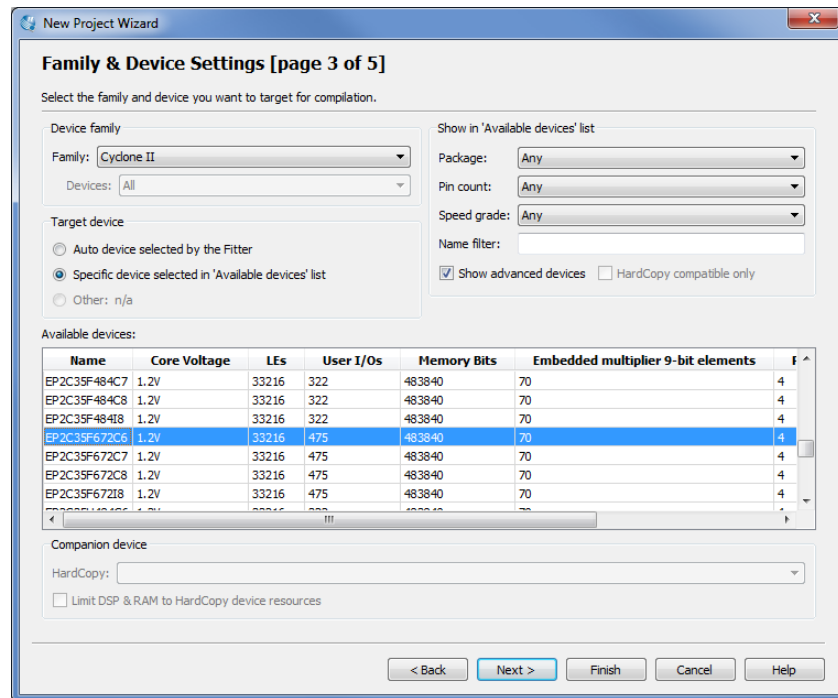

Figure 7. Choose the device family and a specific device.
3. The wizard makes it easy to specify which existing files (if any) should be included in the project. Assuming that we do not have any existing files, **click Next**, which leads to the window in Figure 7.